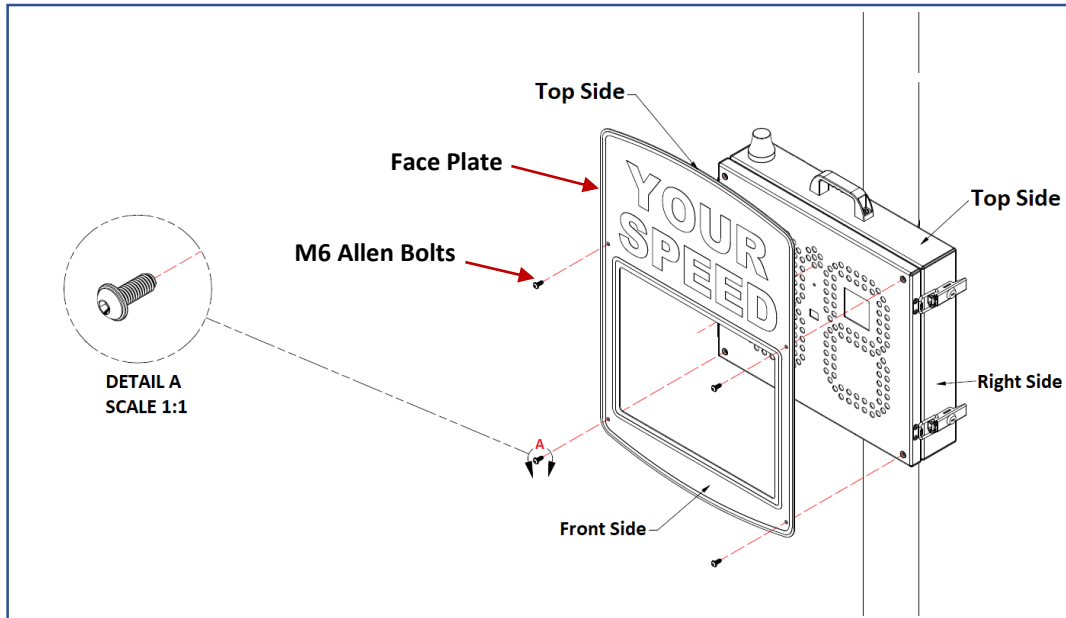

Fig.13
STEP 7: Install **Face Plate** on **Radar Sign** using **M6 Allen Bolt** and **M6 washers**. **Fig.13**